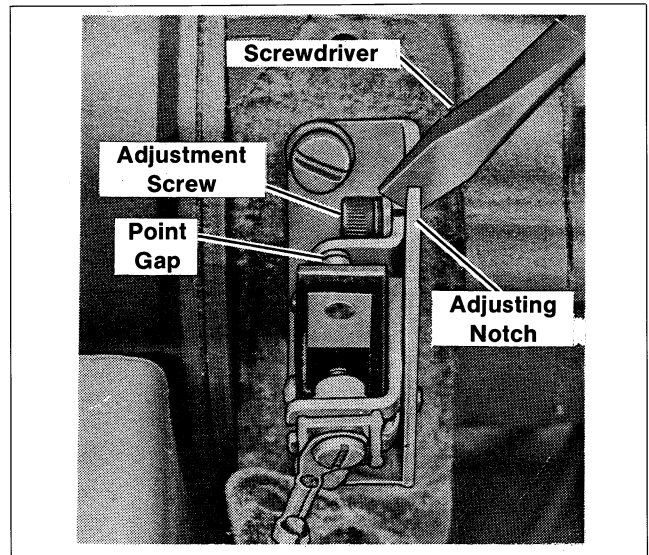

Figure 1-8. Breaker Point Gap Adjustment
4. Measure the gap with a feeler gauge. The gap at full open should be 0.020 in. (0.51 mm). If not, loosen the point gap adjustment screw with an offset screwdriver or an allen wrench. Adjust the gap to 0.020 in. (0.51 mm) by inserting a screwdriver blade in the adjusting notch and shifting the movable plate. See Figure 1-8. Securely tighten the adjusting screw after setting the gap.